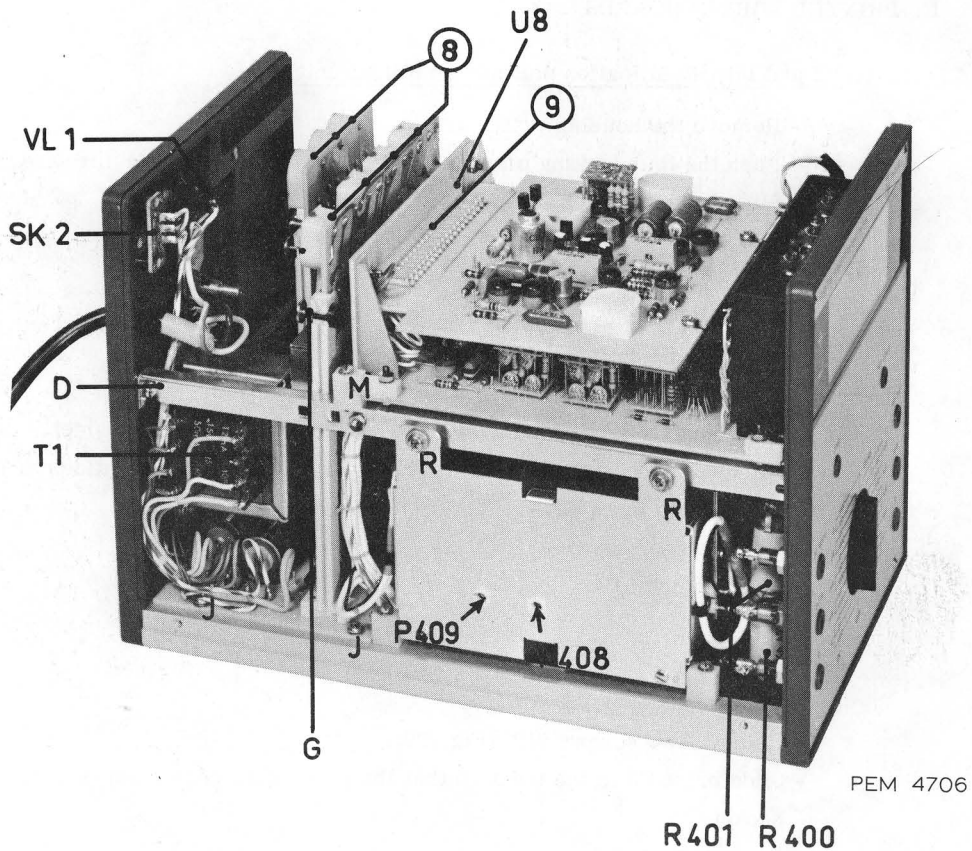

Fig. 21. Left-hand side view
- Remove screw "M" (Fig. 21).
- Remove two screws "R" (Fig. 21).